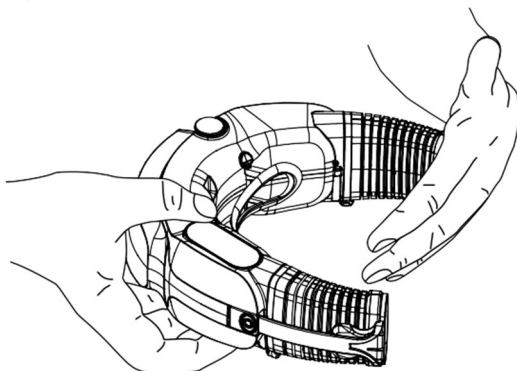

Figure 28 – Blocking the air outlet for a blocked filter alarm test
1. Remove the mask from the respirator. Using your hand, completely cover the air outlet (see Figure 28).